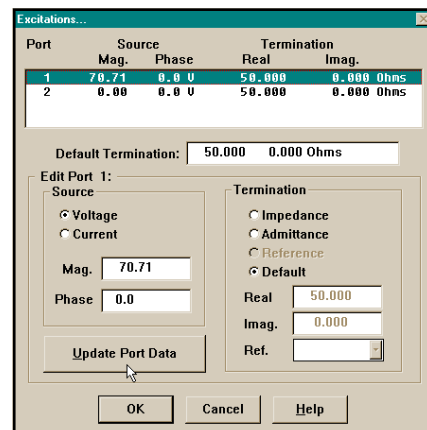

Figure 3—It's easy to set a passive load in Excitations: Just specify a source with a magnitude (**Mag.**) of 0.00 V and a **Phase** of 0.0°.
6. Click the **Excitations** button. The **Excitations** dialog (Figure 3) pops with Port 1 preselected and configured for 1 V of excitation and a 50.000-Ω termination.
Figure 2—Clicking **Add Trace** after selecting a Voltage Probe trace in Report Editor pops ARD's Set Voltage Probe Options dialog, the **Selected Circuit Hierarchy**, **Sub-Circuits List For:** and **Main Circuit** fields of which you can stop worrying about merely by clicking **Select** to choose the only option possible in **Sub-Circuits List For:** box. Next, click on **Excitations** to pop the dialog shown in Figure 3.